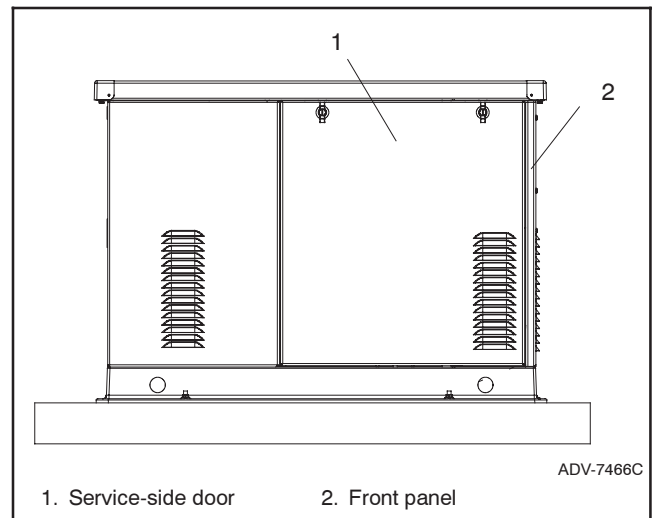

Figure 5-23 Enclosure Roof and Door
1. Remove the service door and the front panel to access the controller junction box. See Figure 5-23.